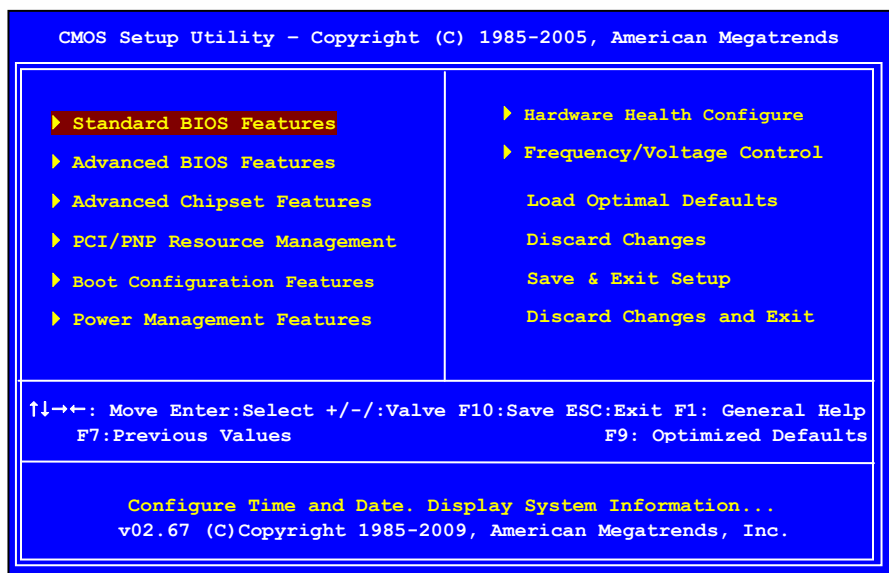

Figure 2. CMOS Setup Utility Main Menu
This motherboard contains seven (6) USB 2.0 ports that are exposed on the rear panel of the chassis (Figure 2). The motherboard also contains three (2) 10-pin internal header connectors onboard that can be used to connect an optional external bracket containing up to six (4) USB 2.0 ports.